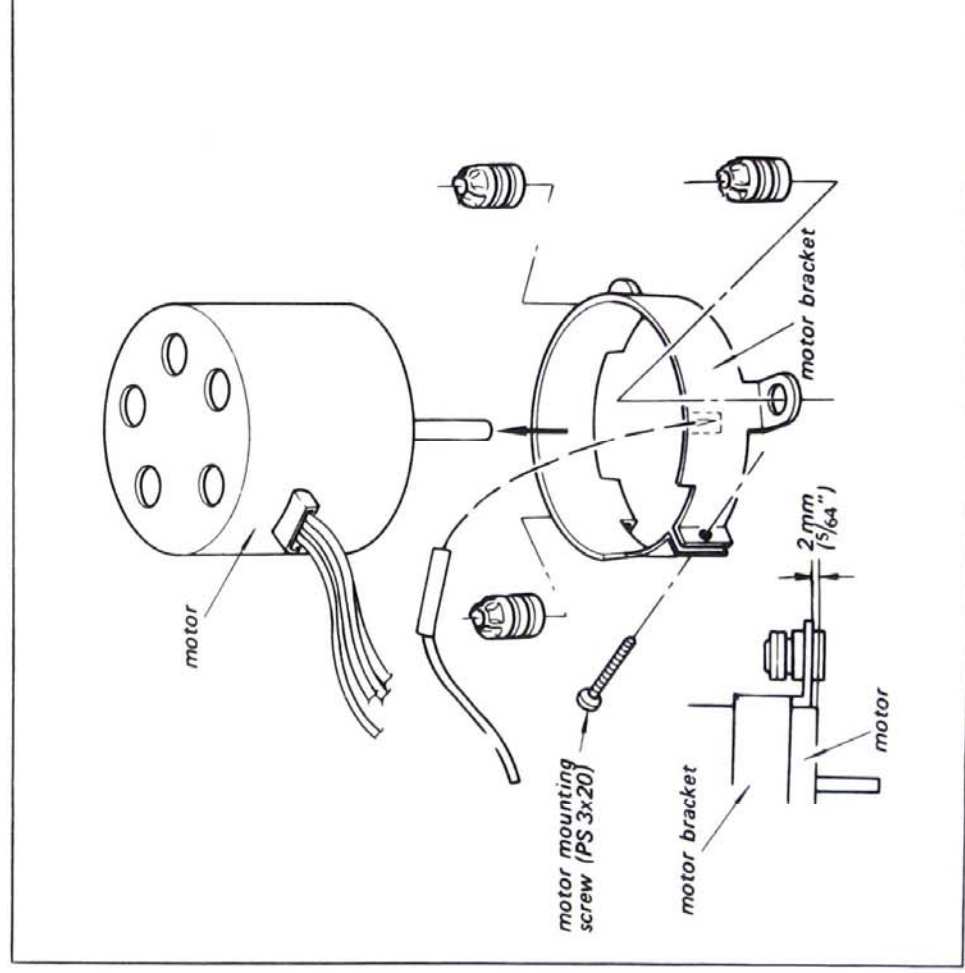

Fig. 2-16. Motor replacement
6. Remove the motor in the arrow direction in Fig. 2-16 by loosening the motor mounting screw.
8. Adjust the height of the motor by moving the motor up and down so that the top of motor is 2 mm ($\frac{5}{64}$ ") lower than bottom part of motor bracket as shown in Fig. 2-16.